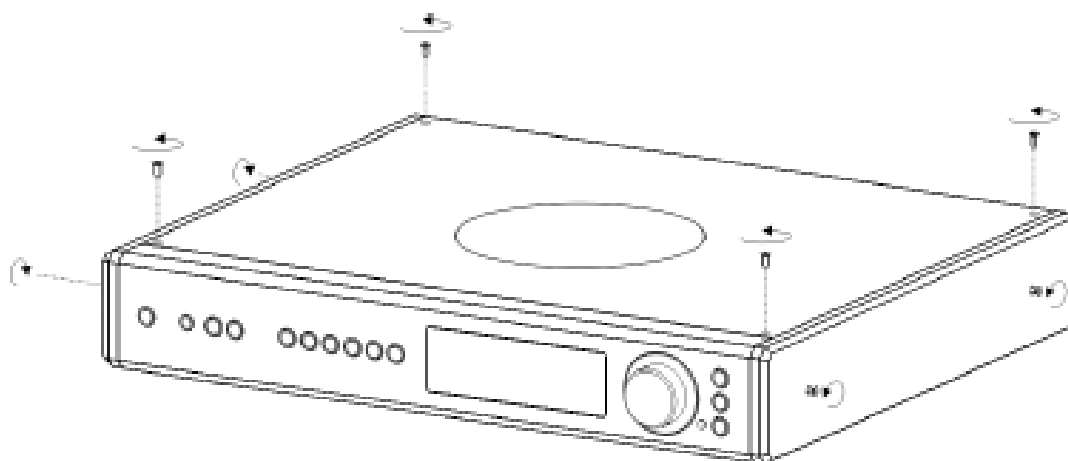

Abb. 1 / Fig. 1
- Remove the four screws of the top cover and unfasten the 4 (8 for the PA 2500 R and R 2500 R) screws of the side panels (fig. 1 and 5).